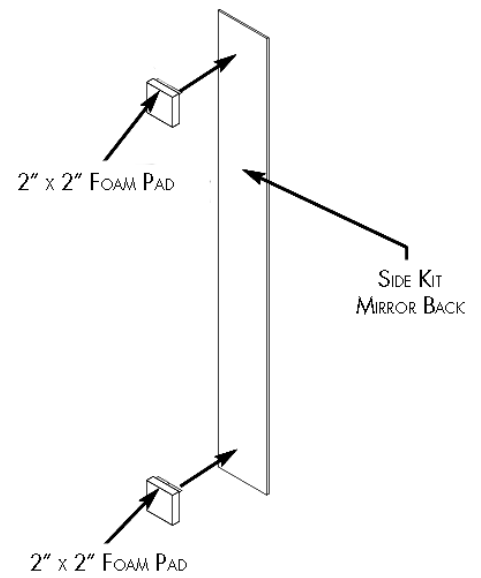

FIG 12
- 6c. Place 2" x 2" foam pads 1" from each end of mirror strip. (Fig 12)
14. Place 2" x 2" foam pads 1" from each end of mirror strip (Fig 12).